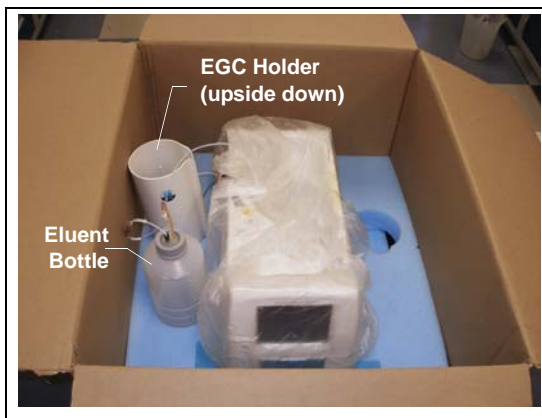

Figure 2. IC System Enclosed in Bag
2. Open the plastic bag that covers the IC system (see Figure 2).